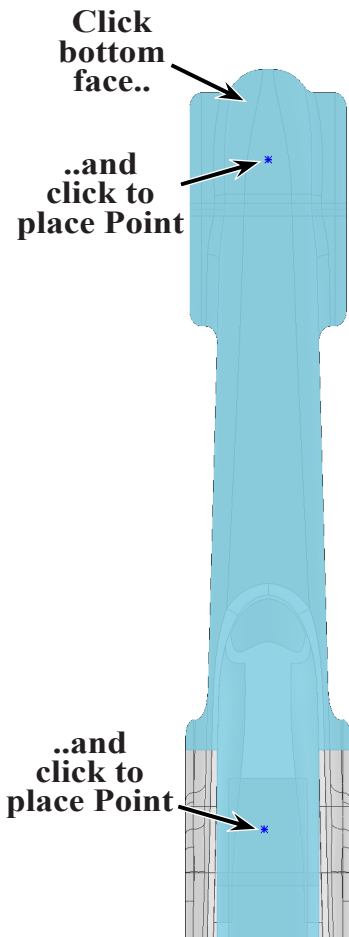

Fig. 21
- Step 6. Click **bottom face of Body** one time as face for holes, then click to place hole in the center of **Body forward of Front Axle** and click **rear of the Rear Axle**, Fig. 21.